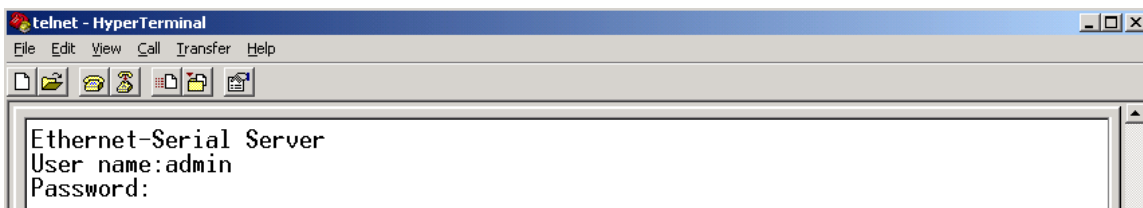

Figure 3.4 Login to the system
->Telnet to STE-502C using command "**Telnet IP_address**". (For example: Input **Telnet 10.0.50.100** in Ms-DOS command prompt window). After telnet to STE-502C, system prompts for a password, the default password is default. (Figure 3.4)